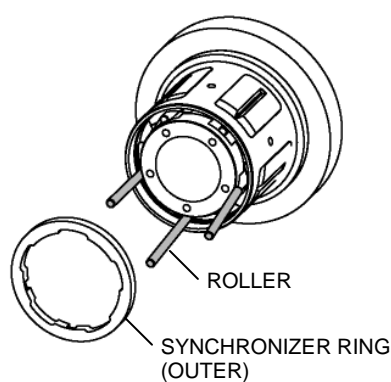

Fig. 8
5. Remove the three bottom rollers from their slots in the inner synchronizer ring (Fig 8).
6. Install the outer synchronizer ring and rotate it with your fingers until the ring seats fully into place over the rollers (Fig. 8). The nose cone will not fit properly if the synchronizer ring is not fully seated.